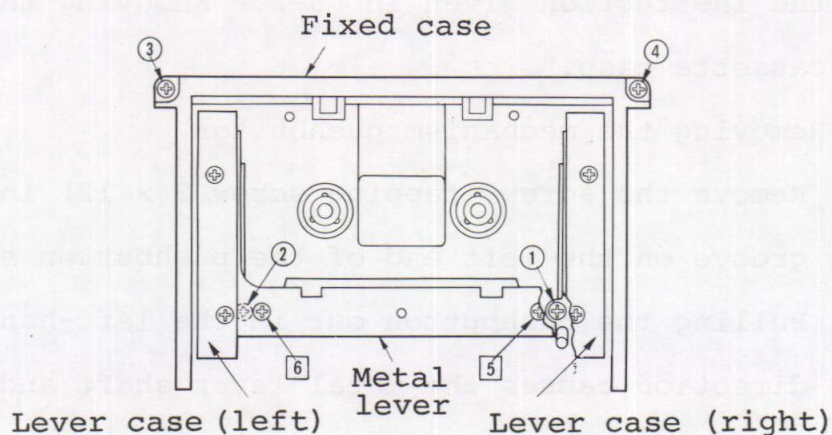

Fig. 7
- As the left-hand side tip of the metal lever shown in Fig. 7 protrudes on the back side of the mechanism unit, remove the back tension spring mounted between the metal lever tip and the motor holder (see disassembling diagram No. 71).
- Under the EJECT state, remove screws (1) to (4) (black tapping 3 x 10) on the side of the fixed case shown in Fig. 7.
- d. The lever and the case separate when screws [5] and [6] (M2.6 x 0.45 x 5) fixing the lever case shown in Fig. 7 are removed (if they do not separate easily, insert a (-) screw driver or like in between and pry them apart).
- b. Pulling the pushbutton out in the left-hand direction causes the metal lever shaft and the pushbutton shaft shown in Fig. 7 to become removable. Then the STOP, FF, PLAY and REC buttons can be pulled out.